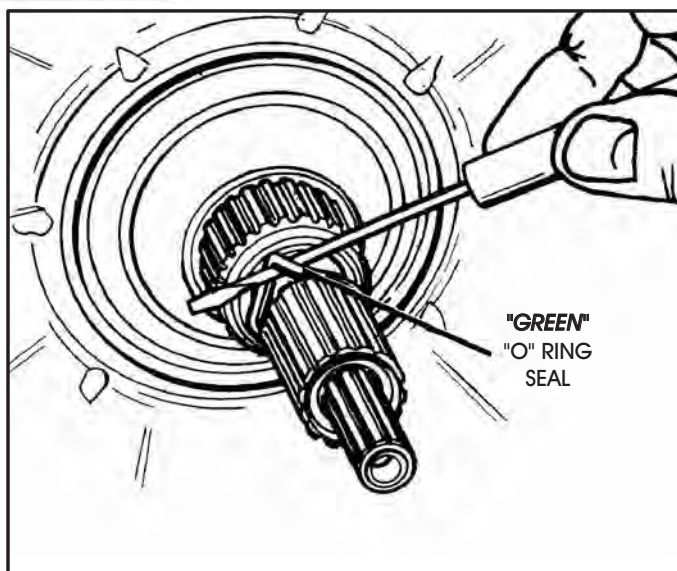

Figure 227
20. Install new **green** "O" ring seal onto turbine shaft, as shown in Figure 227, and lubricate with small amount of Trans-Jel®.